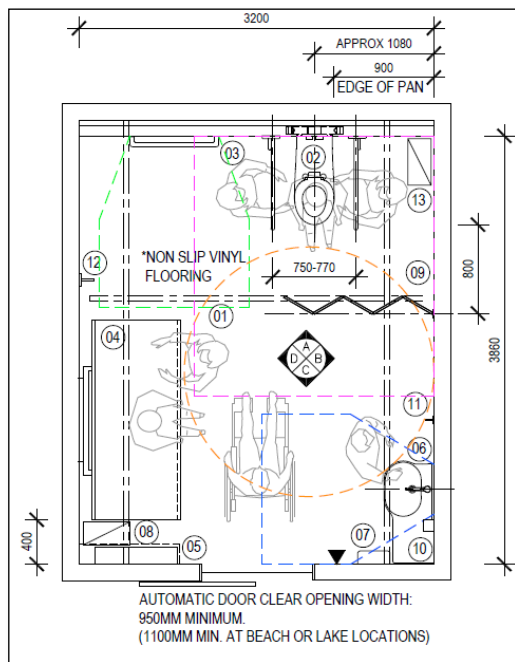

Figure 1: Type 1A (without shower)
1. **Type 1A** without a shower requires 3.2m wide x 3.86m long room dimensions (Figure 1)